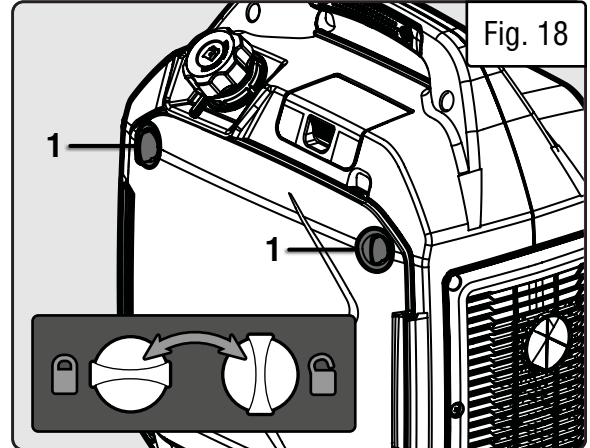

Fig. 18
1. Open the side panel (to the right of the control panel) by twisting the side panel access knobs (Fig. 18 - 1).
2. Open the side panel (to the right of the control panel) by twisting the side panel access knobs (Fig. 18 - 1).